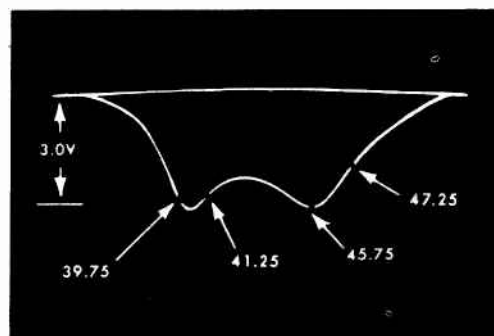

Fig. 5 4th IF Response
3. Feed the sweep generator through the special terminating network shown in Fig. 4 to point "G" (Pin 1 of the 3rd IF). Adjust generator to obtain a response similar to Fig. 5 with a detector output of 3 volts peak to peak. Do not exceed this level during any of the adjustments.
4. Set the marker generator to 45.75 Mc and alternately adjust the top and bottom cores of the 4th IF for maximum gain and symmetry with the 45.75 Mc marker positioned as shown in Fig. 5. The two peaks must be equal in height and the high frequency